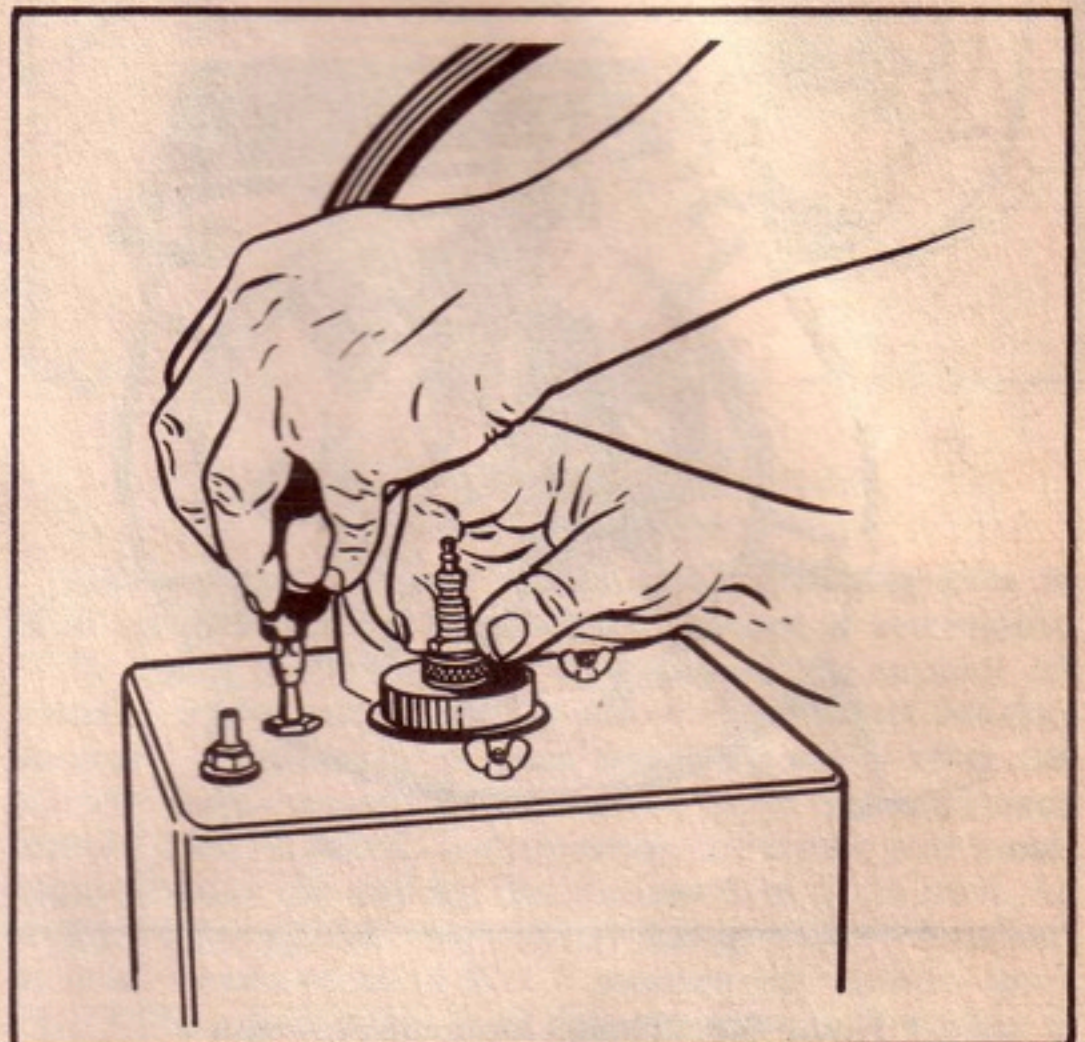

Figure B-7 Cleaning Spark Plug
(1) Engines are equipped at the factory with either a Champion J-8 or an Auto-Lite AN7 spark plug. All spark plugs are regulation 14-mm medium heat range type.
(2) The spark plug should be removed, cleaned, and regapped after each 100 hours of operation. Cleaning should be accomplished with an automotive-type, sand-blast spark plug cleaner if possible. (See figure B-7). A new spark plug should always be used in preference to a plug that has been cleaned.